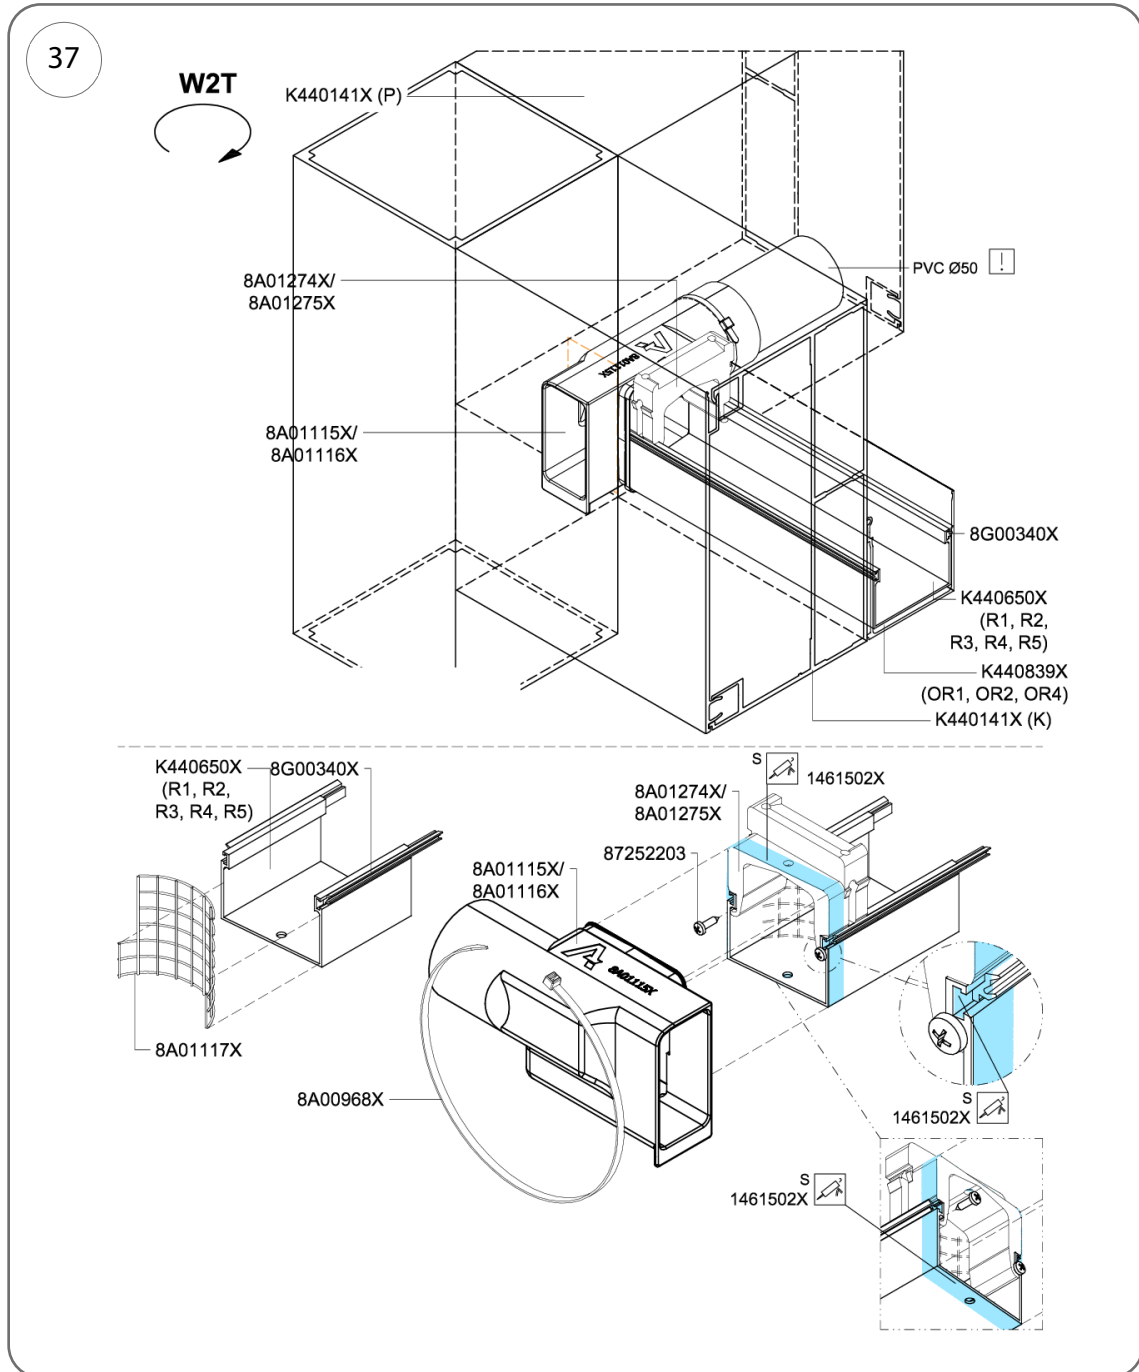

Fig. 37
2. Secure the latch components to prevent them from shifting by fitting 2 screws, 3.5 mm diameter x 13 mm long (cat. no. 87252203) – Fig. 37.
3. Apply a layer of adhesive-sealant compound (cat. no. 1461502X) around the entire perimeter of the gutter and the snap-fit element, as shown in Fig. 37.